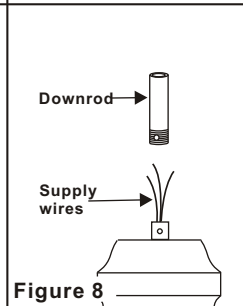

Figure 8
Step 4. Carefully feed fan wires up through the downrod. (Fig. 8) Thread the rod into the coupling. Next line up holes and replace lock pin and hitch pin. Tighten set screws.